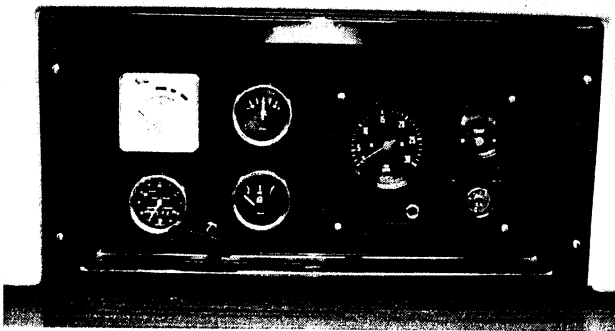

Fig. 18
- the battery charge and oil pressure lights must go off (fig. 18).